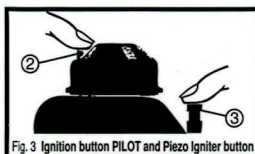

Fig. 3 Ignition button PILOT and Piezo Igniter button
- 2) Wait (5) five minutes to clear out any gas. If you smell any gas, **STOP!** Follow "B" in the safety information above on this label. If you do not smell gas, go to the next step.
- 4) Locate the piezo-electric spark generator which is located on top of the combination gas control (Fig. 3).